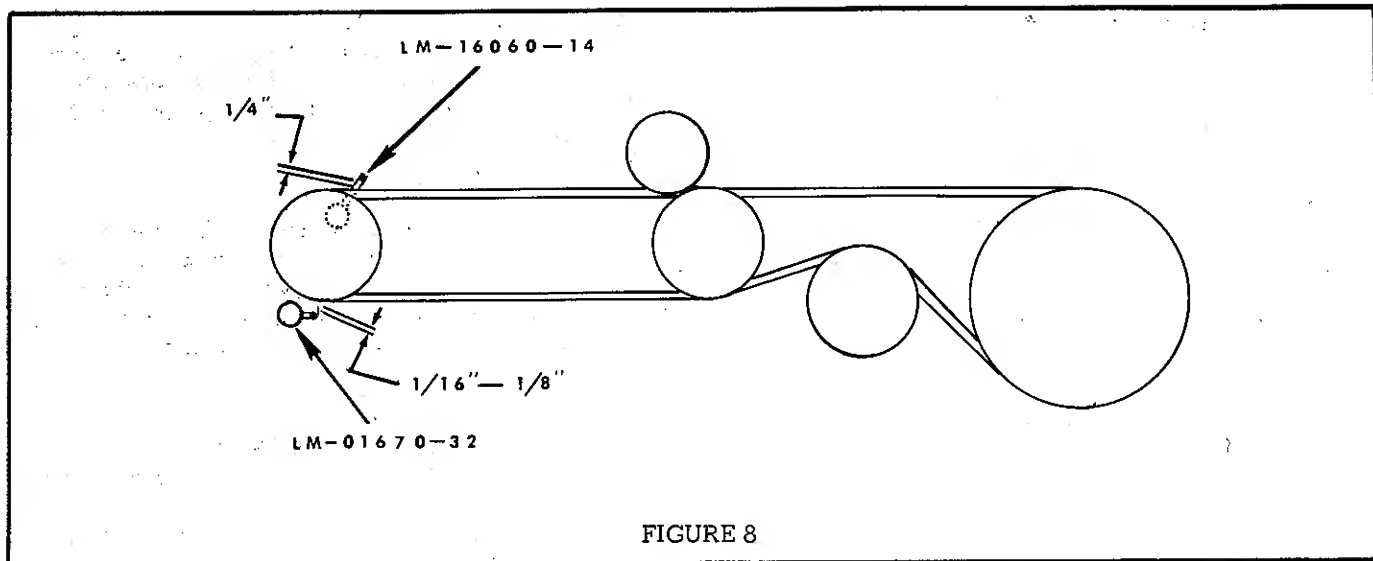

FIGURE 8
(See Figure 8.) The belt stops are located above and below the drive pulley.
1. The belt stop located above the drive pulley is mounted on the top mounting screw of the bevel gear case with a special cap screw which replaces the original. This belt stop should be adjusted to $1/4$ " clearance as shown in Figure 8.